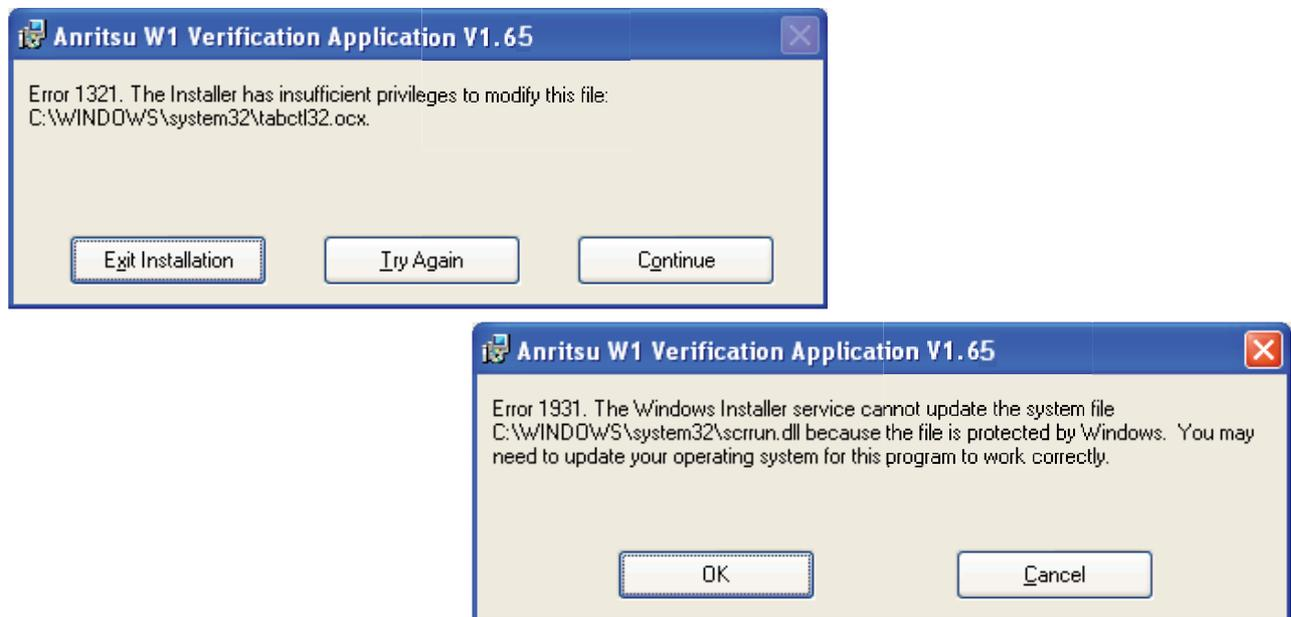

Figure 2-3. Installation Error 1321 and Error 1931 Dialog Boxes
8. If either of the two dialog boxes shown in Figure 2-3 appear that display Error 1321 or Error 1931, follow these instructions: